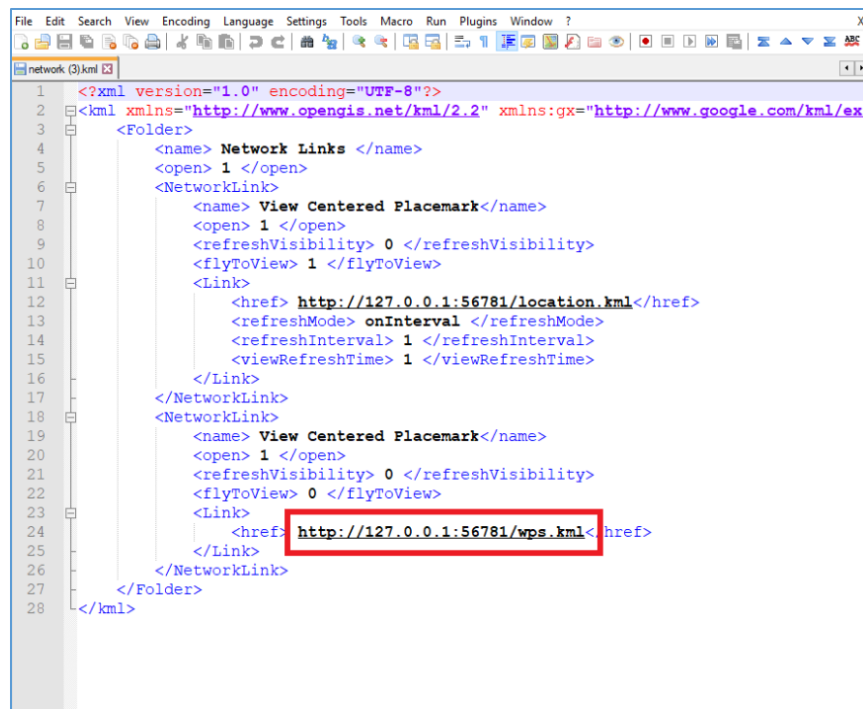

Figure 22 – Link in KML file
25. Double-click the link at the bottom with WPS in the name (Figure 22).